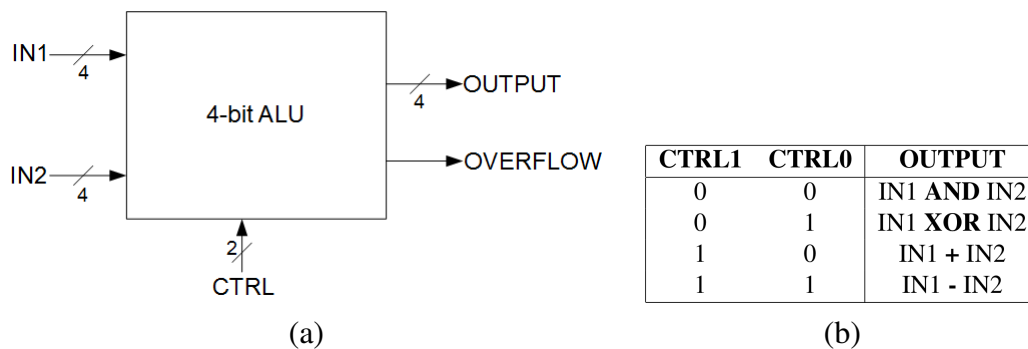
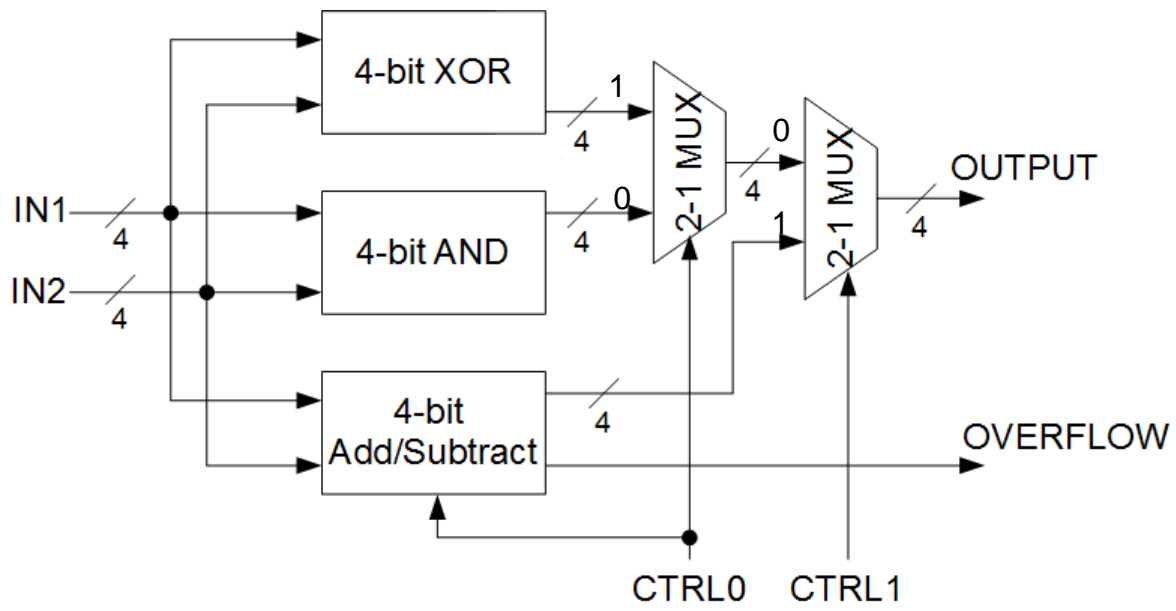

Figure 1: High level block diagram of ALU
Figure 2: Detailed block diagram of ALU
Fig. 1(a) shows the highest level block diagram of what you are going to make, along with the high level truth table in Fig. 1(b). In order to make this, you will need several standard cells: 4 logic gates (NOT, AND, OR, XOR), a 4-to-1 (or a 2-1) multiplexor (MUX), and a Full Adder (FA). Fig. 2 shows a possible block diagram implementation of the ALU, where the 4-1 MUX is implemented as two 2-1 MUXs, and the least significant bit (LSB) of the control signal chooses between addition and subtraction. For each of these components, there are many possible implementations. For example, you can implement a MUX using NAND gates, AND and OR gates, or pass-gate logic altogether. You can choose any method you want.